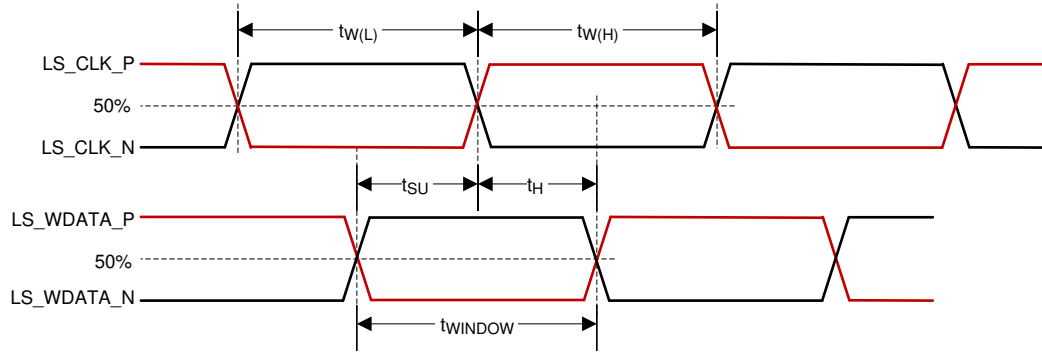

图 5-4. LSIF Timing Requirements
(3) See 图 5-4 for pulse duration high and low time for LSIF.
(4) See 图 5-4 for setup and hold time for LSIF.